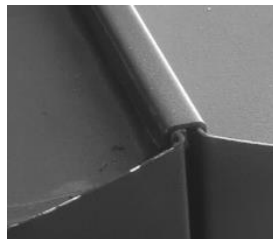

Fig. 4
4. With the help of an assistant, place the lip of the 14-1/2 in. 6-Drawer Side Tool Chest onto the corresponding edge of the 42 in. 9-Drawer Rolling Tool Cabinet, ensuring it is flush and secure (Fig. 4).